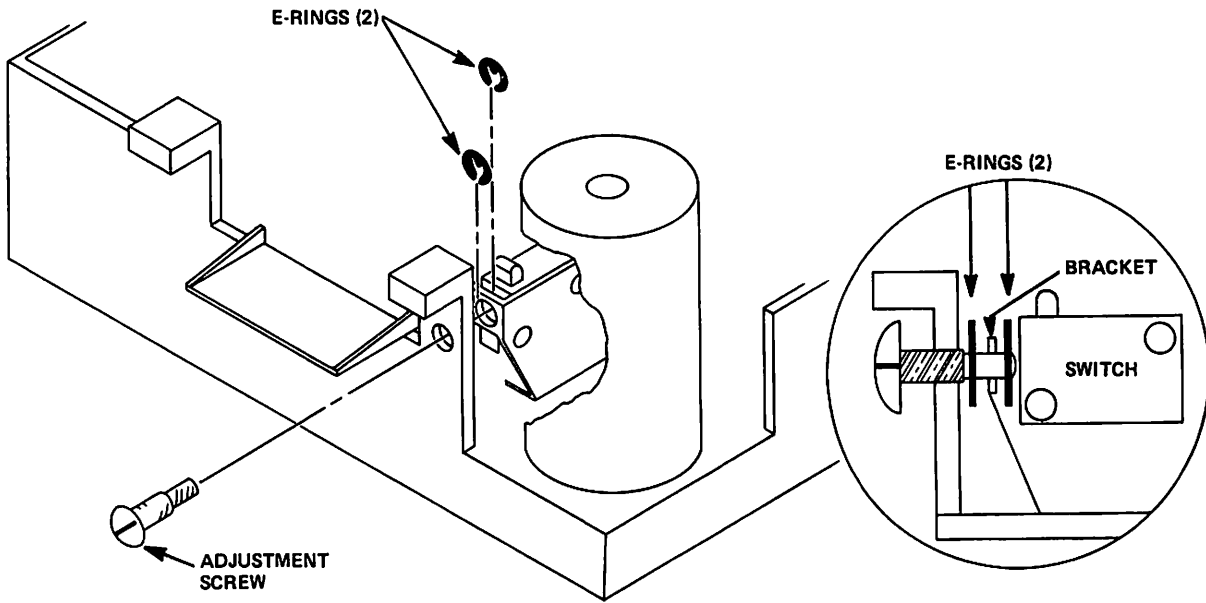

Figure 5-21
5.11.3 With a flat blade screwdriver, remove the E-ring from the Track 00 Switch Assembly adjustment screw located on the inside of the disk drive between the switch and its bracket (see Figure 5-21).